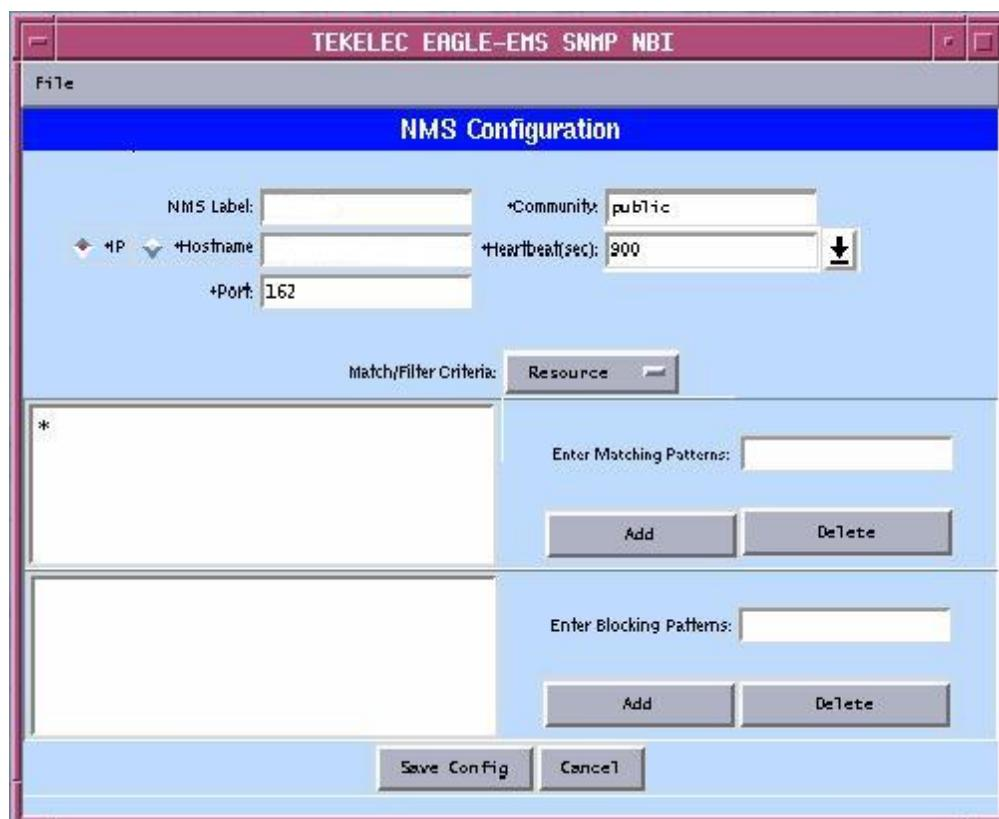

Figure 117: NMS Configuration Page
10. Fill in or modify the parameters as described (refer to Figure 117: NMS Configuration Page):